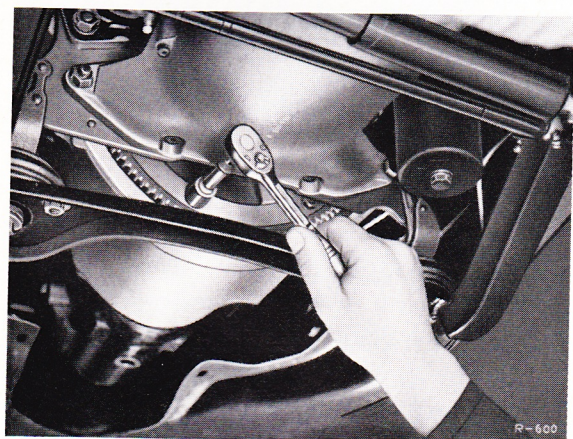

Fig. 25-1/5
11. Fit Retaining Bracket (1) 180 589 04 61 to the clutch housing (Fig. 25-1/6).